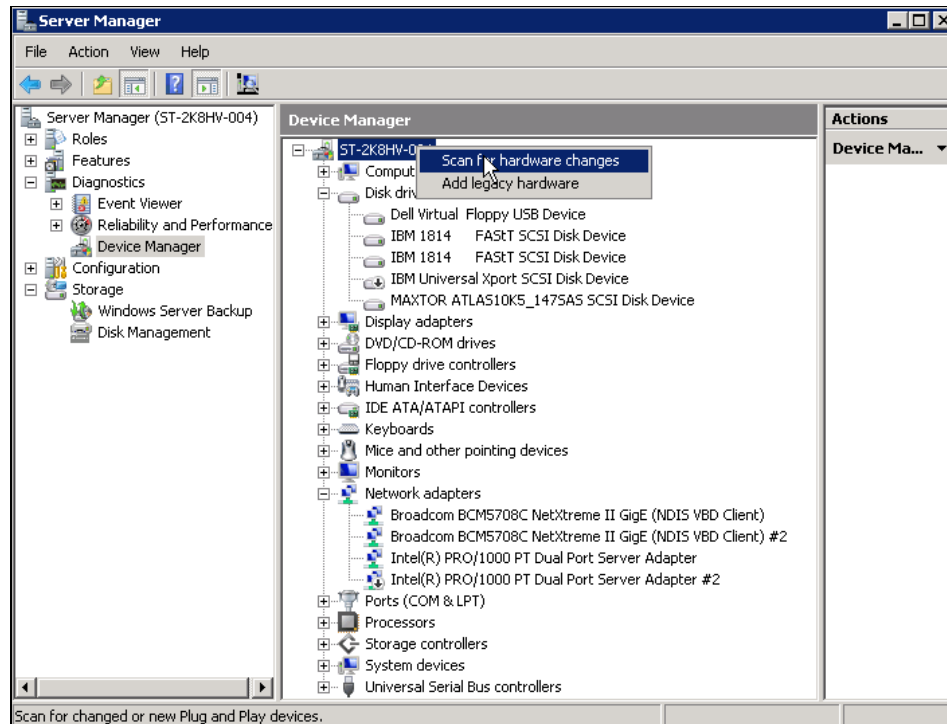

Figure 10-44 Scan for hardware changes
1. Figure 10-44 shows the Microsoft Windows Server 2008 Device Manager where we scan for hardware changes by right-clicking the server name and selecting **Scan for hardware changes**.